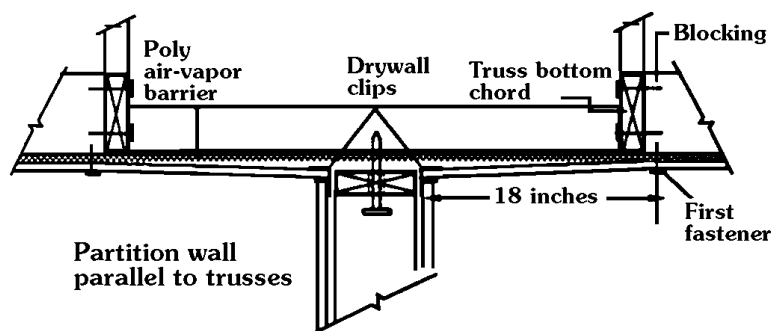

Figure 7.27: Drywall details to avoid damage or ugly cracking from roof truss uplift.
- When applying drywall, connect the ceiling drywall to the partition-wall top plates with drywall clips. Fasten the drywall to the ceiling at a distance far enough away from the partition so that, in the event the truss rises, the drywall can absorb the deflection without cracking (Figure 7.27).